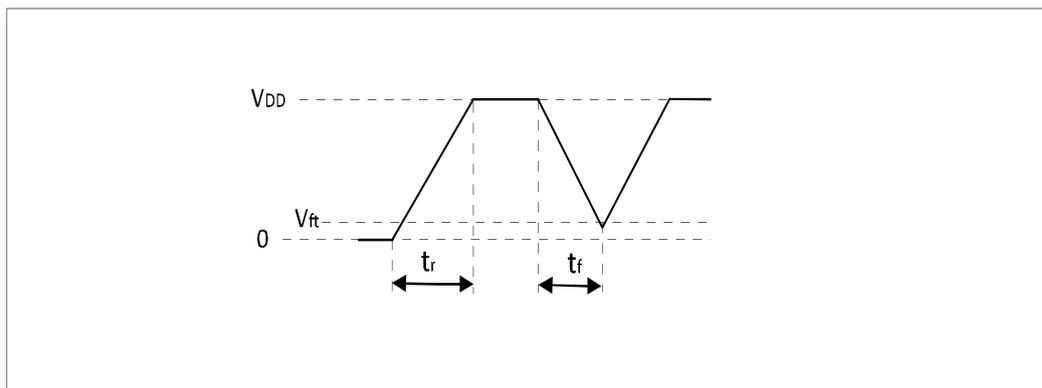

Figure 5-5 Power-on and power-down waveforms
1. The VDD waveforms of chip power-on and power-down must strictly follow the tr and tf phased in the following waveform diagram Figure 5-5, and no power-down is allowed during power-on process.